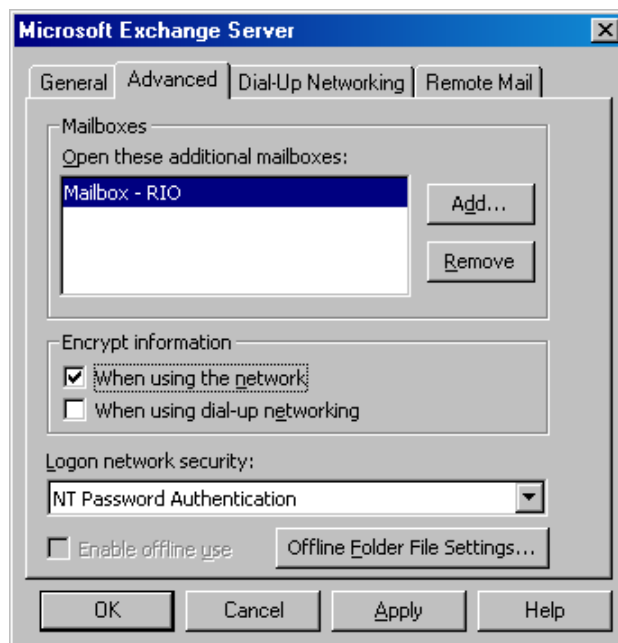

Figure 5-11. Advanced properties popup window
4. Click on the **More Settings...** button. The popup window shown in Figure 5-11 appears.